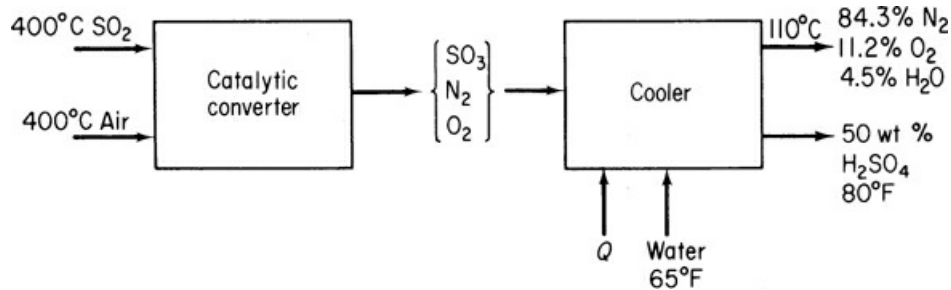

Figure SAT12.2P2
2. Calculate the heat that must be added or removed per ton of 50 wt % H₂SO₄ produced by the process shown in Figure SAT12.2P2.